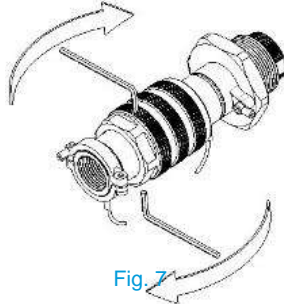

Fig. 7
- 8. Tighten the M5 captive locking screws fully using a 2.5mm Allen key Fig. 7, torque to 1Nm.